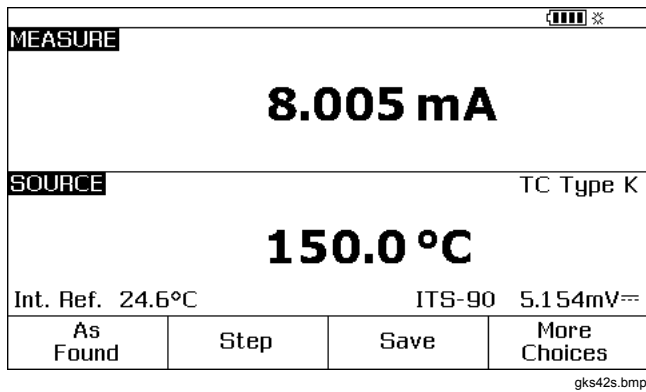

Figure 28. Process Instrument Calibration Screen
9. Push  for MEASURE/SOURCE mode. The display changes to the screen shown in Figure 28.